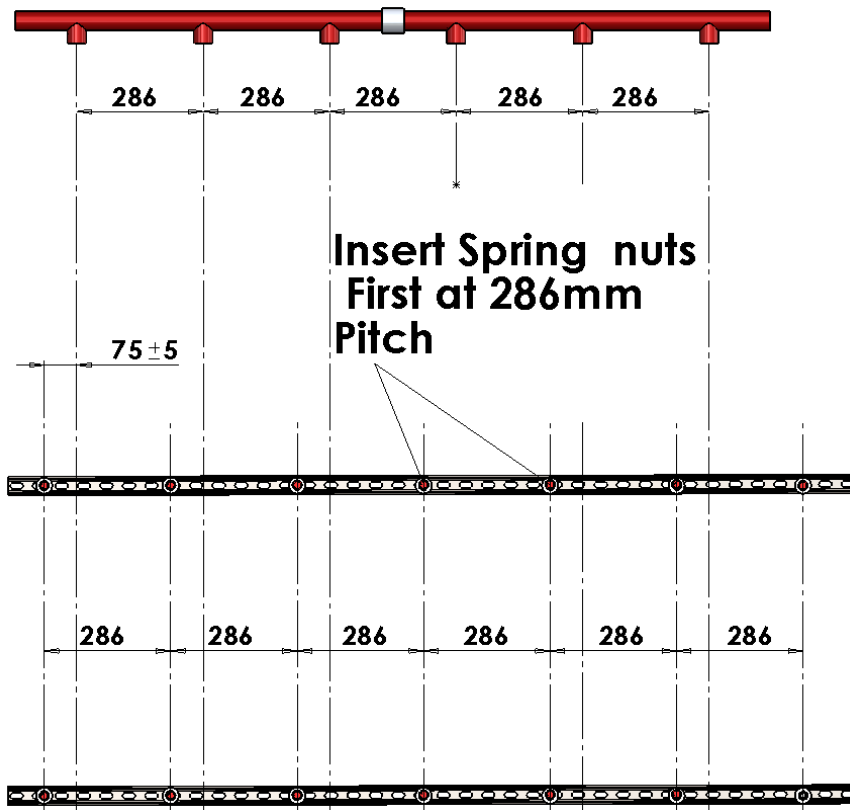

Figure 5.4.6 – Layout of studding and wall rail relative to the manifold
- Slot all of the channel spring nuts into the wall rail with the correct position relative to the manifold, refer to *Figure 5.4.6* for dimensions.